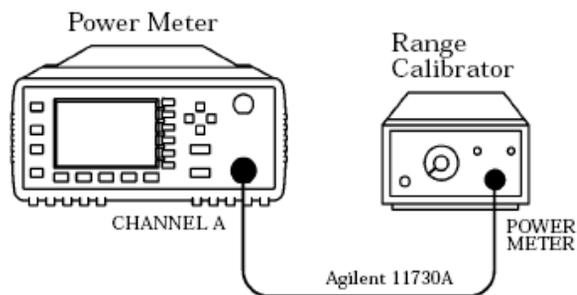

Figure 1-12 Zero test setup
- 1 Connect the equipment as shown in Figure 1-12.